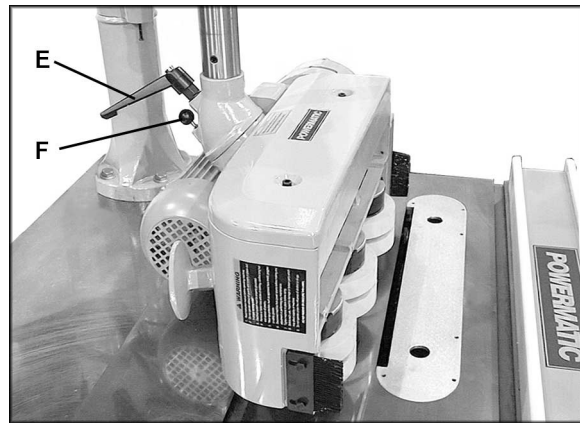

Figure 10
1. Loosen the handle (E, Figure 10) and pull up on the pin (F, Figure 10).
2. Pivot the Stock Feeder into position. (NOTE: At 90 degrees of pivot, as shown in Figure 10, the pin will lock into place.)
3. Re-tighten the handle (E, Figure 10).